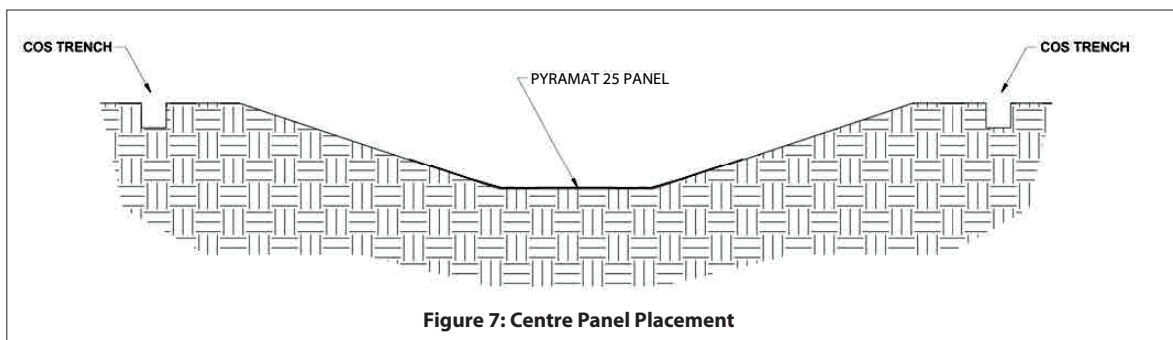

Figure 7: Centre Panel Placement
- Starting with the centre Pyramat® 25 panel (Figure 7), roll the Pyramat® 25 rolls over the top of the compacted IC trench and upstream across the surface of the channel (Figure 8). Ensure that Pyramat® 25 has intimate contact with the ground and all irregular surfaces beneath the Pyramat® 25 are removed.
- Starting with the centre Pyramat® 25 panel (Figure 7), roll the Pyramat® 25 rolls over the top of the compacted TC trench and downstream across the surface of the channel (Figure 11). Ensure that Pyramat® 25 has intimate contact with the ground and all irregular surfaces beneath the Pyramat® 25 are removed.